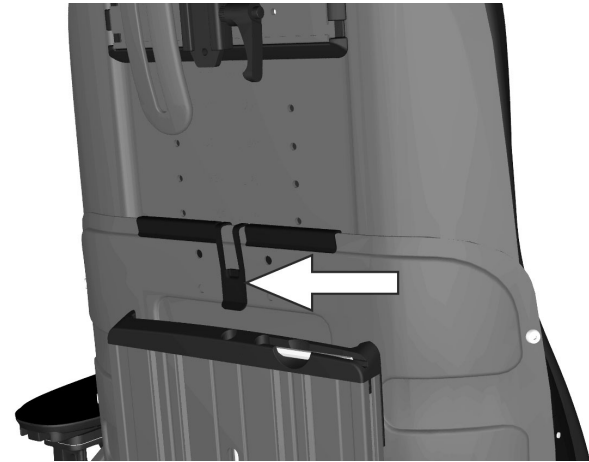

Figure 188. The upper section of the backrest is secured with a locking mechanism.
2. Remove the backrest upper plate. For access to the locking mechanism, set the backrest angle to its most upright position. Remove the upper section of the backrest by carefully opening the locking mechanism catch outwards while also pulling the upper section of the backrest straight up. See fig. 188.